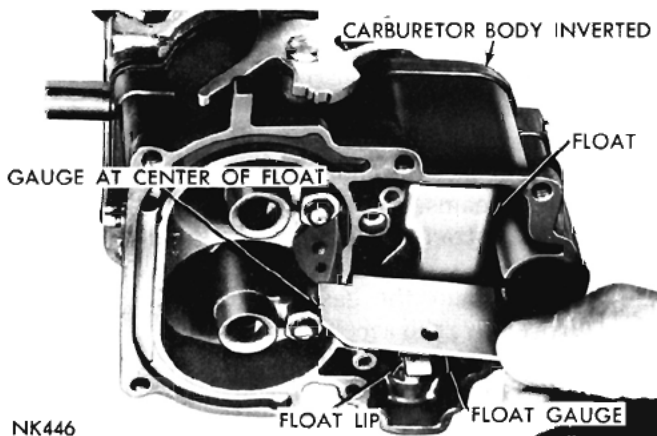

Fig. 14—Measuring the Float Setting
(1) Install the float with the fulcrum pin and retaining spring in the main body.
(2) Install the needle, seat and gasket in the body and tighten securely.
(3) Invert the main body so that the weight of the float **only** is forcing the needle against the seat.
(4) Using Tool 73725 or a "T" scale, check the float, as shown in (Fig. 14). There should be  $\frac{7}{32}$  inch from the surface of the fuel bowl (gasket removed) to the top of the float at the center.